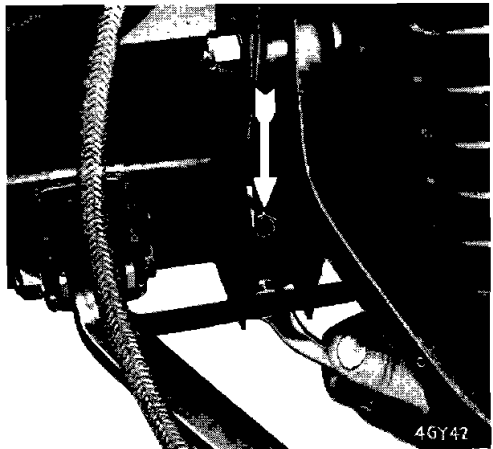

Fig. 7. Tightening sub-frame attachment bolts
1. Insert the lower inner fulcrum bracket studs through the holes in the chassis frame and secure with washers (30) and nyloc nuts (29). Insert the shims (31) between the brackets (32) and chassis frame, ensuring that they occupy their original positions. Tighten the nyloc nuts (29).
2. Offer up the sub-frame and secure it with the inner attachment bolt, spring and plain washer, and four outer bolts, spring and plain washers (Fig. 7) and two tapping plates. Finally tighten the bolts.